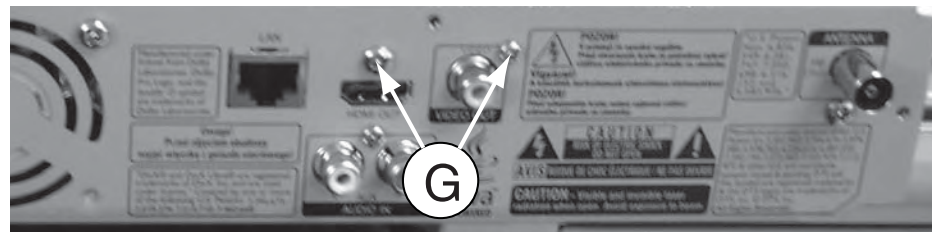

Figure 13
- 2) At the back panel, loosen 2 screws “G” as shown in figure 13